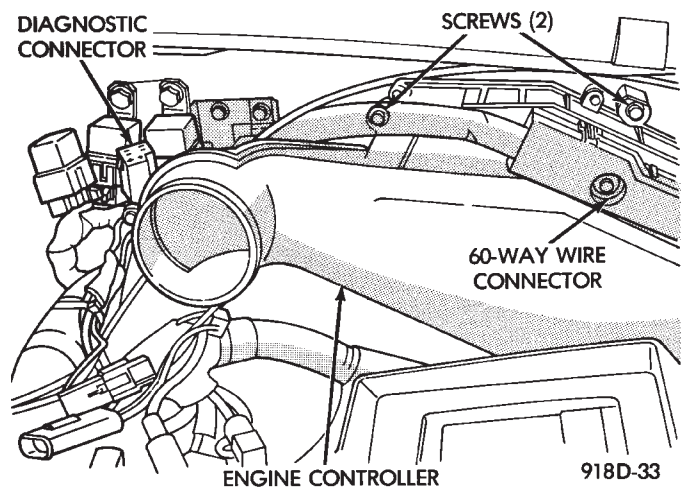

Fig. 18 Engine Controller
- (1) Remove air cleaner duct from engine controller.
- (2) Remove battery.
- (3) Remove controller mounting screws (Fig. 18).
- (4) Remove wiring connector from the controller.
- (5) Reverse the above procedure for installation.